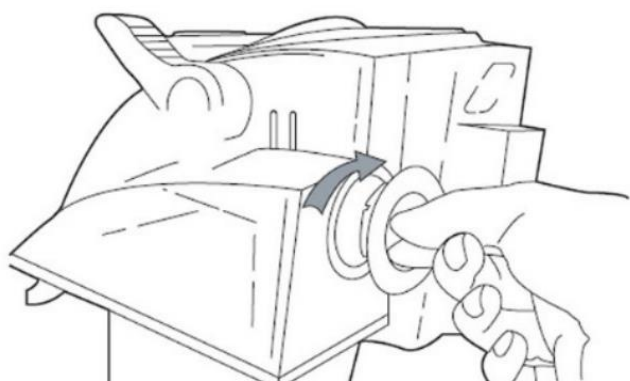

Fig. 6
2. Twist the dirty water tank outlet cap to the left and remove, empty, rinse and replace the tank. [Fig.6]